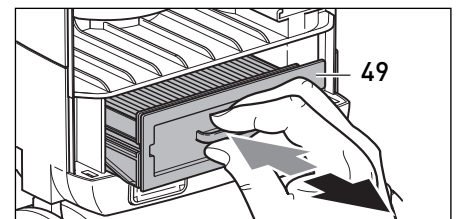
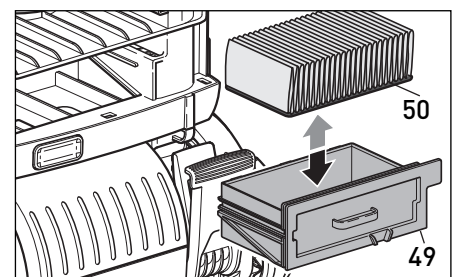

Figure 19
Figure 20
Changing the Exhaust Filter - Figures 19 & 20
After 20 bags have been used, change the exhaust filter. To change the exhaust filter, remove the bag housing cover (24) by pressing the cover release button (19) and lifting the cover up and out. Grasp the handle on the orange filter holder (49 - figure 19) and pull it out. Pull the filter out of the holder. Insert the new filter rubber-gasket-side-down (50 - figure 20) into the holder and re-insert the holder. Replace the bag housing cover and snap it in place.